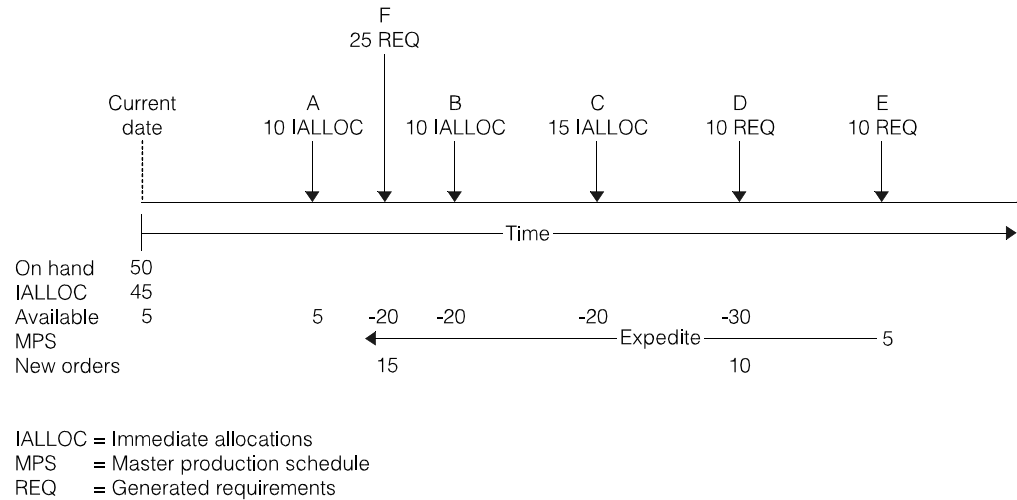

Figure 2-6. Item with a new requirement and no time-phased allocations
- Case 2: Unexpected requirements appear for an item (Figure 2-6 and Figure 2-7)
**Case 2.** Figure 2-6 and Figure 2-7 show two examples in which a requirement appears unexpectedly from an undefined source in a new planning run. In these examples the number of days to expedite the open order is the same. However, the new planned orders that are created tend to be further in the future when using time-phased allocations.